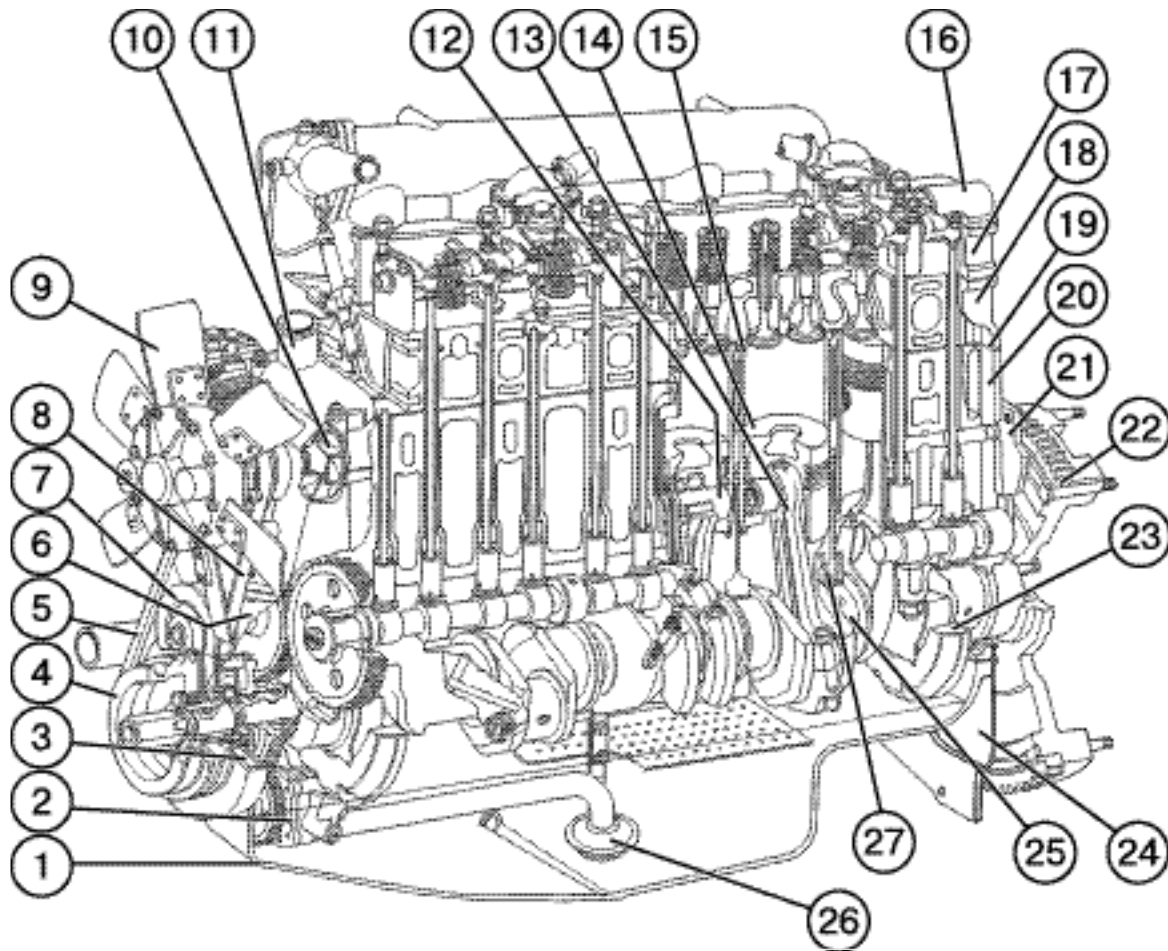

Fig. E-1. Д-260.2 engine (longitudinal section):
The engine (Fig. E-1, E-2) consists of a cylinder block, two cylinder heads, crank mechanism, valve control as well as feed, lubrication, cooling and starting systems and electric equipment.
The **cylinder block** (20) (Fig. E-1) is designed as a monoblock consisting of a rigid iron casting.
The **crank gear** (Fig. E-1) includes a crankshaft (25), together with main- and connecting-rod bearings, a flywheel (22), pistons (14) in assembly with piston rings and pins, and connecting rods (13).
To reduce the crankshaft torsional vibration amplitude, the pulley is fitted with a liquid-type torsional vibration damper (3) (Fig. E-1).